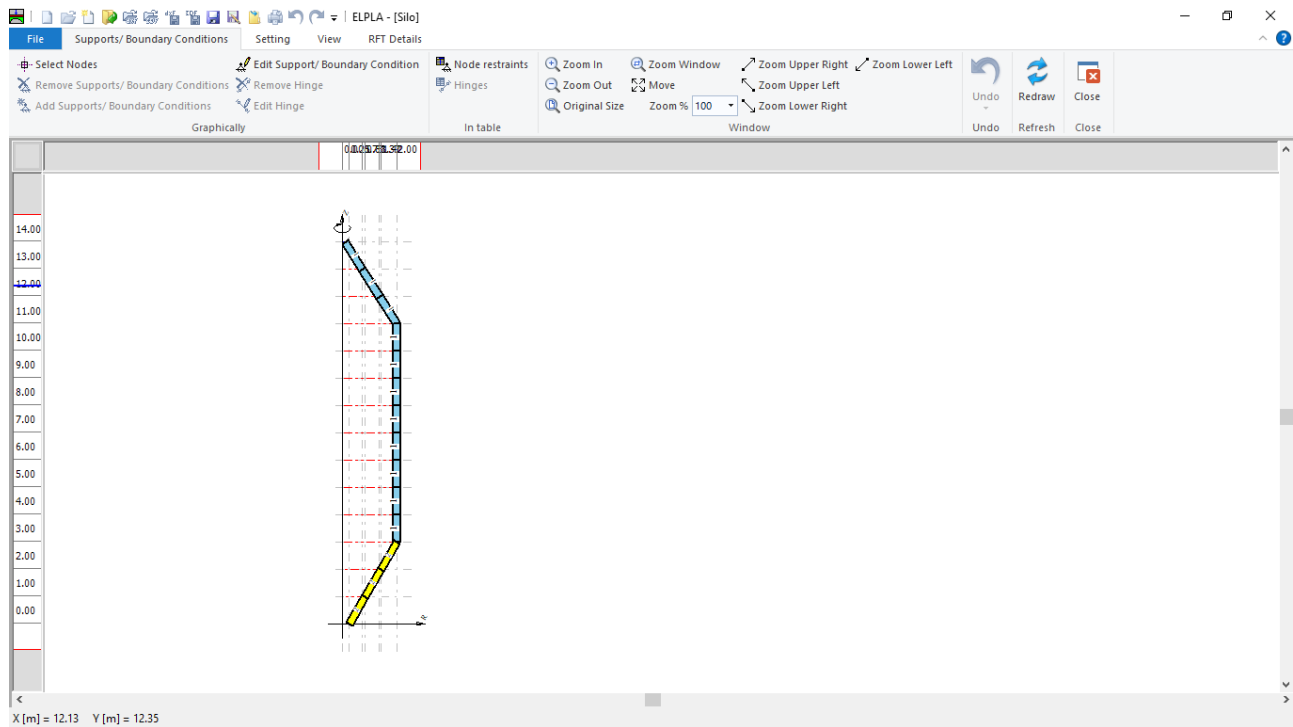
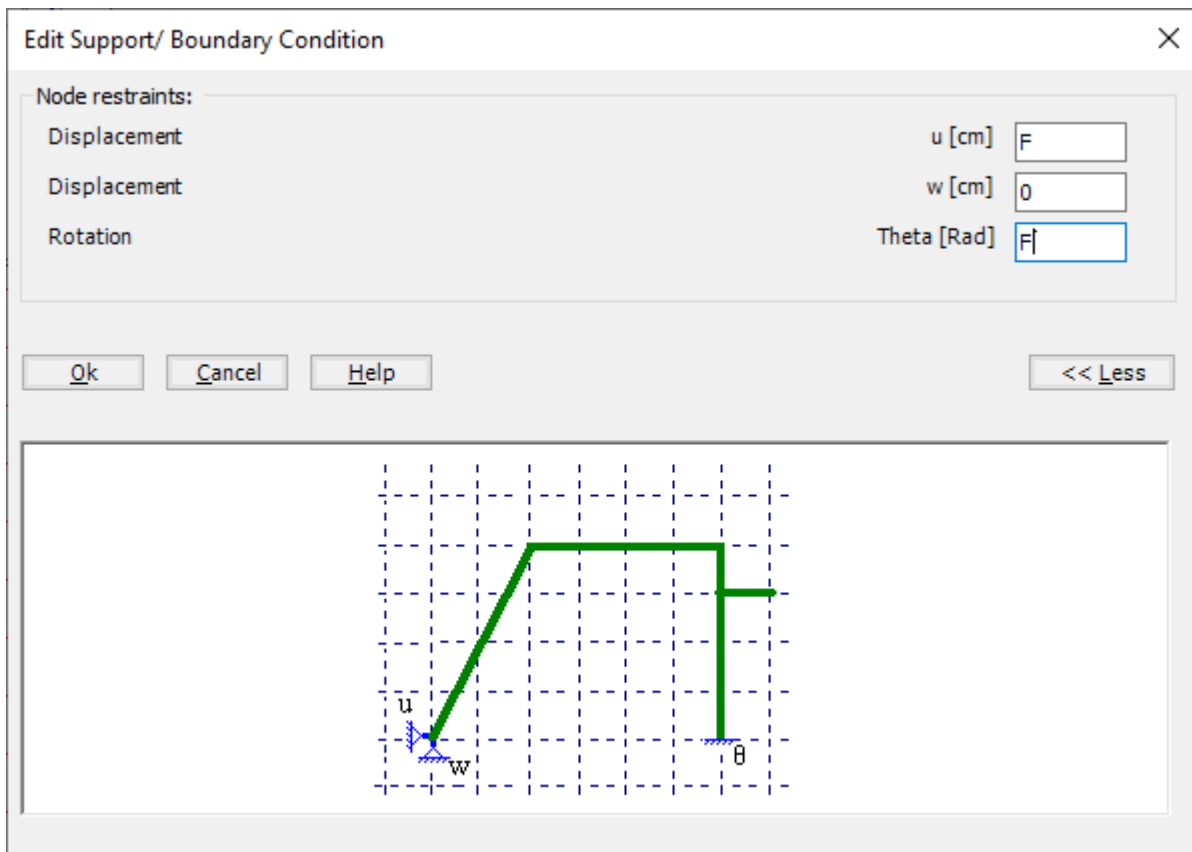

Figure 13.17 "Supports/ Boundary Conditions" Window
Figure 13.19 "Supports/ Boundary Conditions" dialog box
To define the support, choose "Supports/ Boundary Conditions" command from "Data" Tab. The following window in Figure 13.17 appears.
- Choose "Select Nodes" command from "Graphically" menu in Figure 13.17. When "Select Nodes" command is chosen, the cursor will change from an arrow to a cross hair
- After selecting the node, choose "Add Supports/ Boundary Conditions" command from "Graphically" menu (Figure 13.17). The "Supports/ Boundary Conditions" dialog box in Figure 13.19 appears